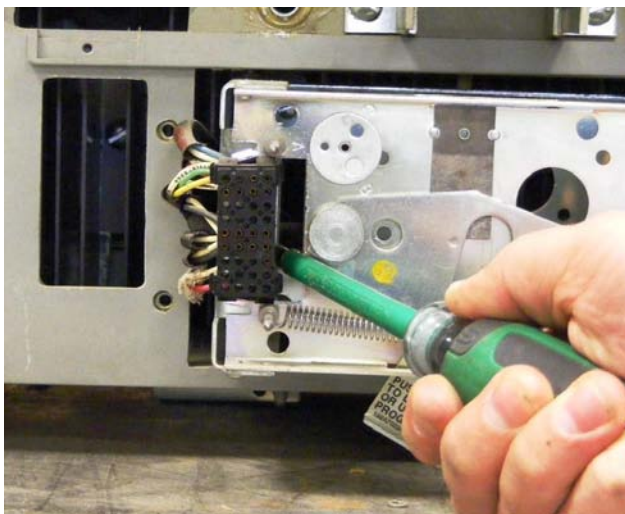

FIGURE 14, REMOVING THE CONNECTOR HOUSING
5.6. Remove the plastic connector housing from the trip unit mounting bracket as shown in figure 14. If necessary the metal tabs retaining the plastic housing can be bent slightly to allow the housing to be removed.